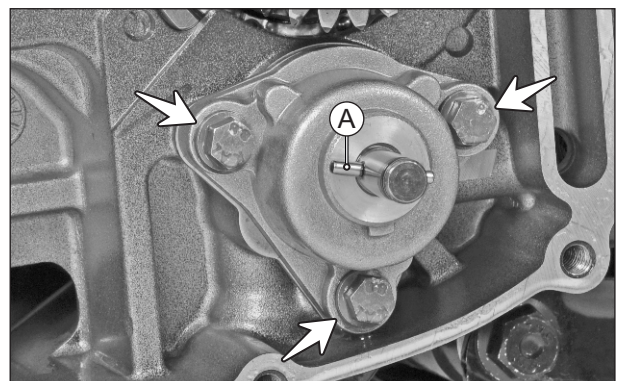

Fig. 3.119
- Remove the pin oil pump driven gear (A). (Fig. 3.119)
- Remove hexagonal flange bolt (3 nos.) from the pump assembly oil and pull out pump assembly. (Fig. 3.119)